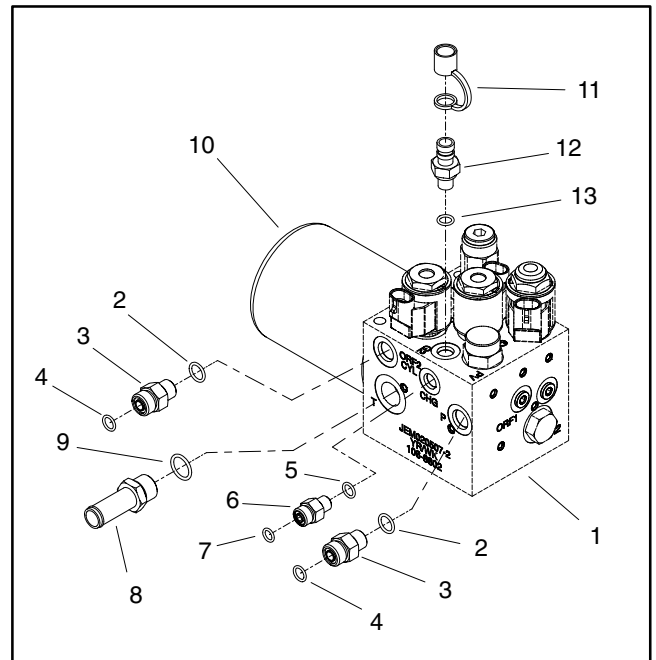

Figure 39
6. Remove two (2) cap screws and flange nuts that secure hydraulic manifold to the frame mounting bracket.
8. Remove hydraulic fittings from manifold as needed (Fig. 39).